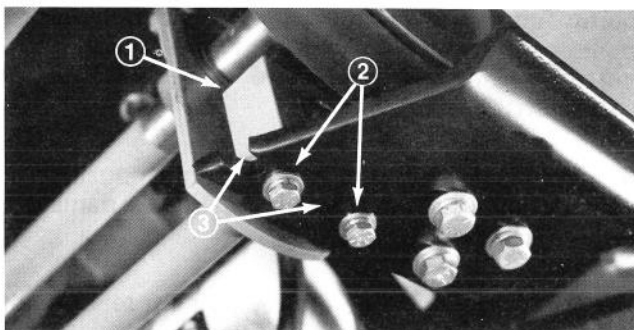

Figure 78
4. Remove two capscrews, and lockwashers securing bearing hub and shim to bracket (Fig. 78).
**Note:** If belt stretches, pivot block may be repositioned on bracket using additional set of mounting holes. Remove capscrews, lockwashers and flatwashers securing pivot block and shim to bracket. Relocate pivot block and shim and resecure to bracket with fasteners removed (Fig. 78).